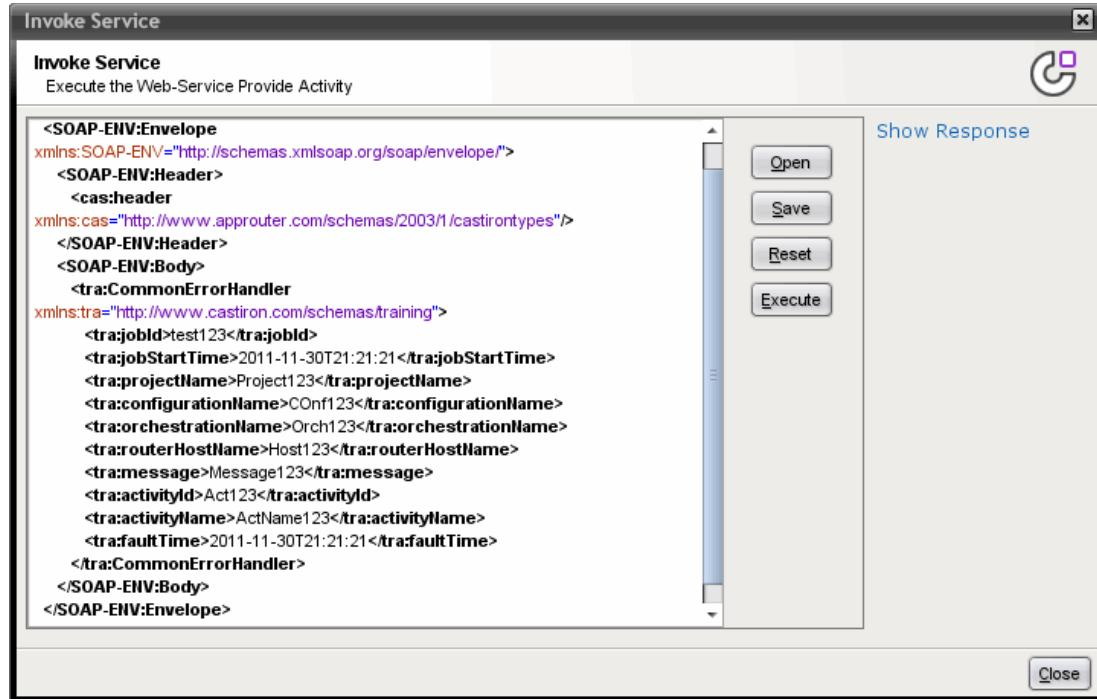

Figure 7-32 *Invoke Service input*
- b. Enter test values in the fields, as shown in Figure 7-32, and click **Execute**.